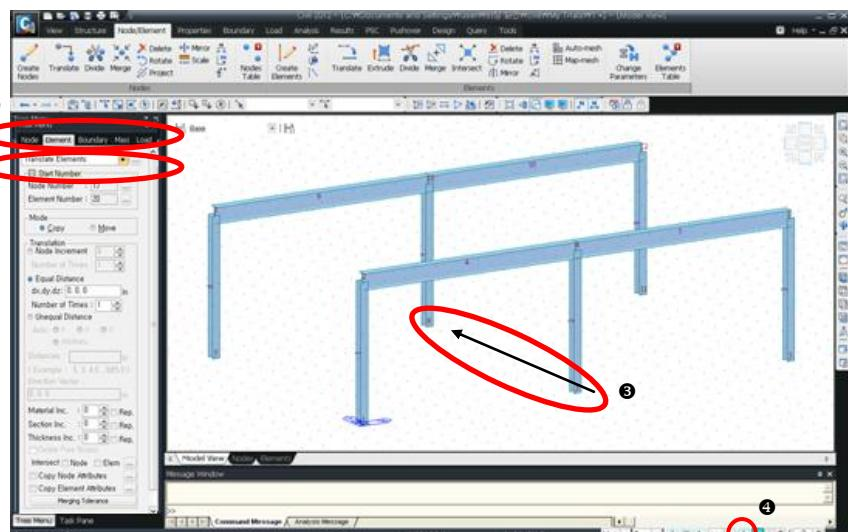

Figure 1.10 Duplication of 2-D Frame
When switching from the current modeling function to another function, the Main Menu or Tree Menu can be used. In the case of mutually related functions (example: **Create Elements**, **Translate Elements**, etc.), midas Civil enables the user to switch directly using the functions selection field (Fig.1.10–❷).
Where the functions are remotely related or unrelated, it is recommended that the **Model Entity** tabs shown in Fig.1.10–❶ be used (**Node**, **Element**, **Boun...**, **Mass**, **Load**).
Instead of typing in the values for dx, dy, dz, the distance and direction of the position to be moved/duplicated can be defined with the mouse cursor using Mouse Editor (Fig.1.10-④).
In Fig.1.10:
Fast Query shows the attributes of the snapped nodes or elements which are off in Fig.1.10-③.